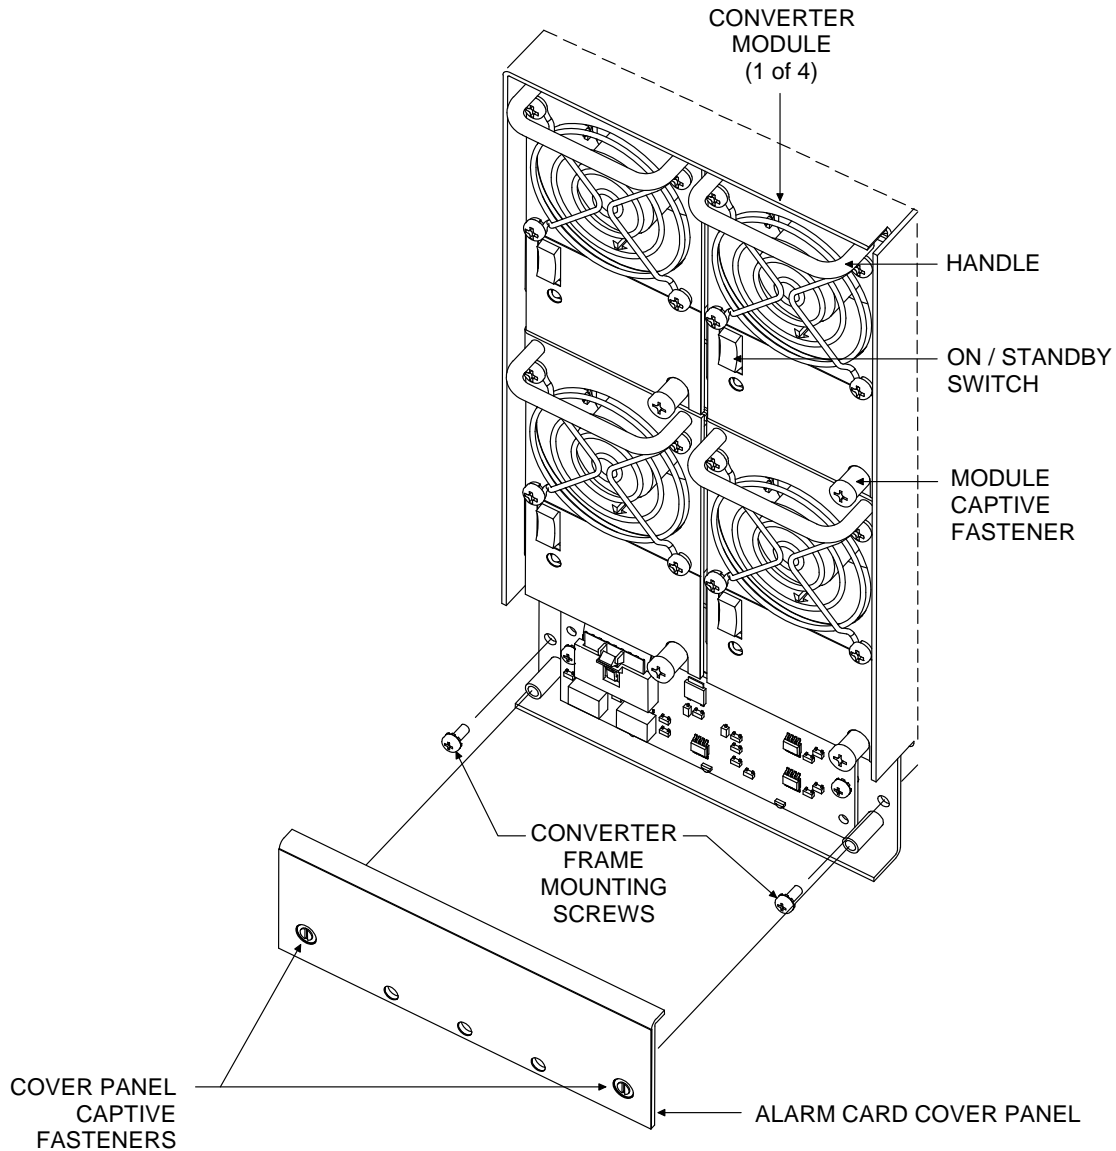

Figure 3-1
- 1) Remove the alarm card access cover panel at the bottom front of the DC-DC Converter Mounting Frame by first loosening its two captive fasteners. Refer to Figure 3-1.